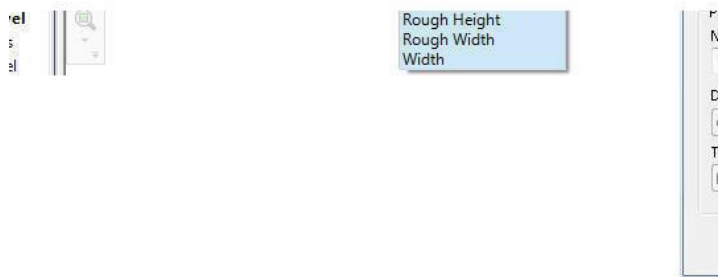

Figure 17. Establishing the “Veneer Thickness” parameter.
6. Select the dimension you just placed, then from the Options bar, click Add Parameter from the drop down list next to “Label” (see Figure 17.)
7. In the Parameter Properties dialog, leave the Parameter Type set to “Family parameter” (we will look at Family vs. Shared parameters a bit later). Enter “Veneer Thickness” for the Parameter Name, group the parameter under “Dimensions” and click Instance. Make sure your settings match Figure 17 and click OK.